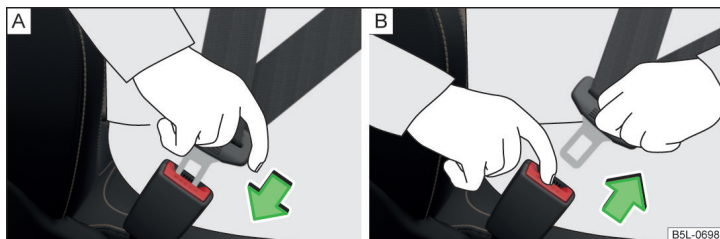

Fig. 6 Fastening/unfastening the seat belt
- Insert the lock tongue into the belt buckle » Fig. 6 - [A] that is part of the seat until it clicks into place.
- Press the red button in the belt buckle » Fig. 6 - [B], the lock tongue pops out.